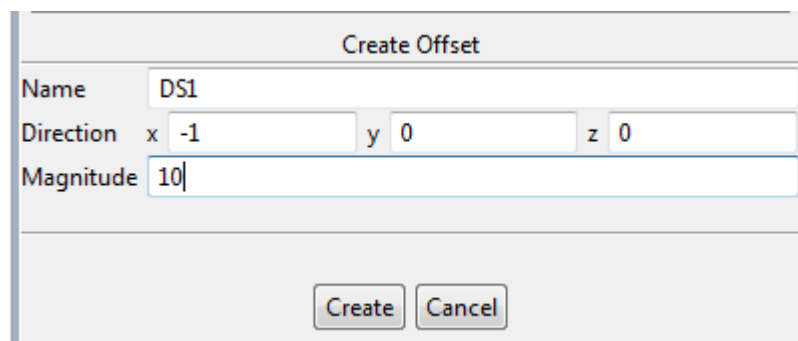

Figure 2. Offset wizard dialogue
- The **Offset** wizard dialogue appears in the details area of the **GD&T** view. Enter the offset parameters into the wizard fields (see Figure 2):